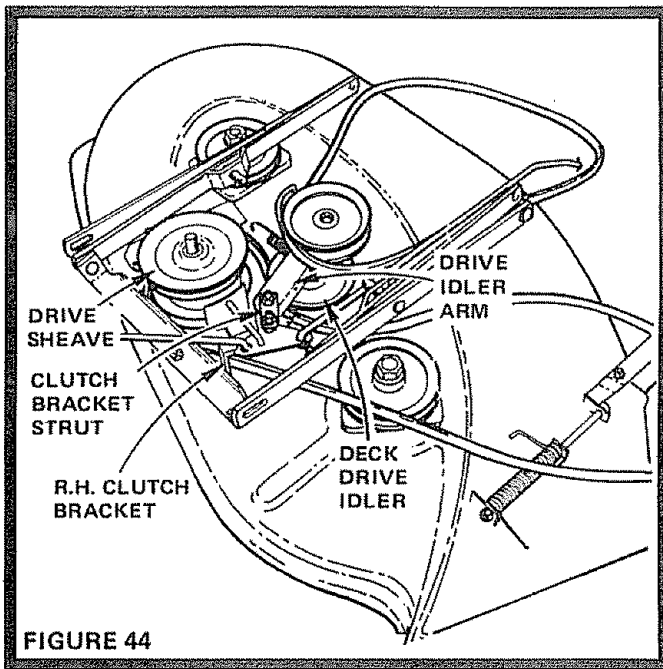

FIGURE 44
5. Remove Clutch Bracket Strut (Fig. 44)
6. Loosen front bolt in R.H. Clutch Bracket (Fig. 44)
7. Remove rear bolt from R.H. Clutch Bracket (Fig. 44)
9. Raise rear of R.H. Clutch Bracket and slip Belt to the outside (Fig. 44).
10. Continue by slipping Belt between Deck Drive Idler and Drive Idler Arm (Fig. 44). Remove Belt from bottom groove of Drive Sheave and then from mower (Fig. 44).